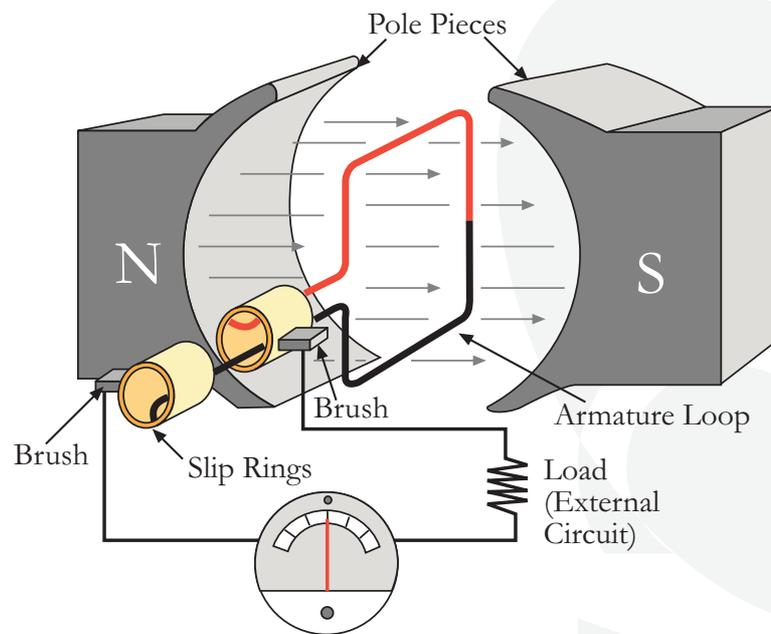
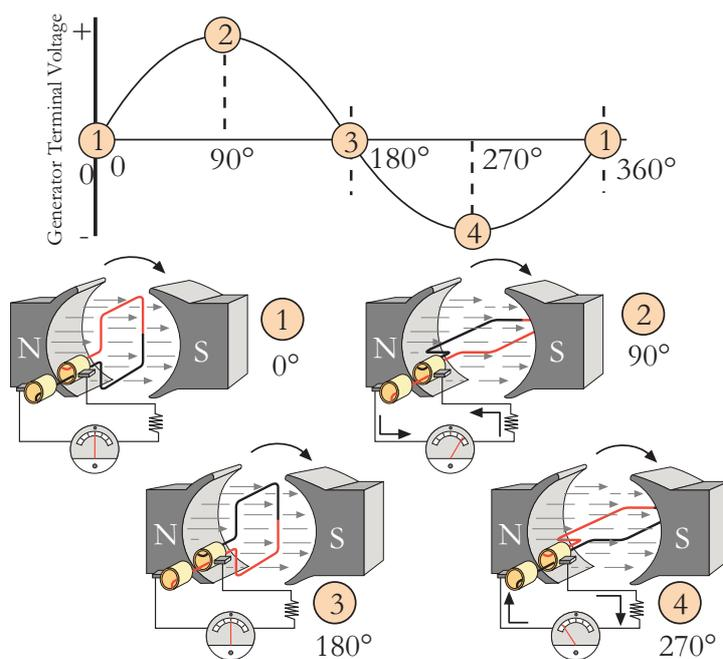

Figure 3.1 - The simple ac generator
Figure 3.2 – Voltage Generation
The simplest generator is an ac generator and basic generating principles are more easily explained by looking at this type first; the dc generator will then be discussed later. A simple generator, figure 3.1, consists of a wire loop positioned so that it can rotate in a stationary magnetic field and as it does will produce an induced emf in the loop. Sliding contacts, usually called *brushes*, connect the loop to an external circuit load in order to *pick up* or use the induced emf.
In figure 3.1 the pole pieces provide the magnetic field and are shaped and positioned as illustrated to concentrate the magnetic field as close as possible to the wire loop. The rotating wire is called the *Armature* and its ends are connected to rings, more correctly called *Slip Rings*, which rotate with the armature. Brushes, usually made of carbon, ride against the slip rings and have wires attached to them that connect to the external load. Any generated voltage appears across these brushes; this is demonstrated graphically in figure 3.2 below.
The simple generator illustrated in figure 3.2 above, produces a voltage as the armature loop rotates in a clockwise direction. For the purposes of this explanation, the initial or starting point is shown with the loop vertical, i.e. at position ①, called the 0° position. As illustrated in figure 3.2, at 0° the armature loop is perpendicular to the magnetic field and the loop's red and black conductors are moving parallel to the magnetic field.
As the armature has rotated from 0° to 180° , the conductors have been moving through the magnetic field in the same direction and so the polarity of the induced voltage has remained the same, illustrated by points A to C on the graph in figure 3.2. As the loop rotates beyond 180° through 270° , position ④, and back to the initial starting point, position ①, the direction of the conductors' cutting reverses through the magnetic field. Now the **red** conductor cuts **up** through the field while the **black** conductor cuts **down** through the field and as a result, the polarity of the induced voltage reverses, as shown in figure 3.2. The terminal voltage will be the same as it was from ① to ③, except that the polarity is reversed as shown by the meter deflection at position ④. The voltage output waveform for a complete revolution of the loop is shown on the graph in figure 3.2.